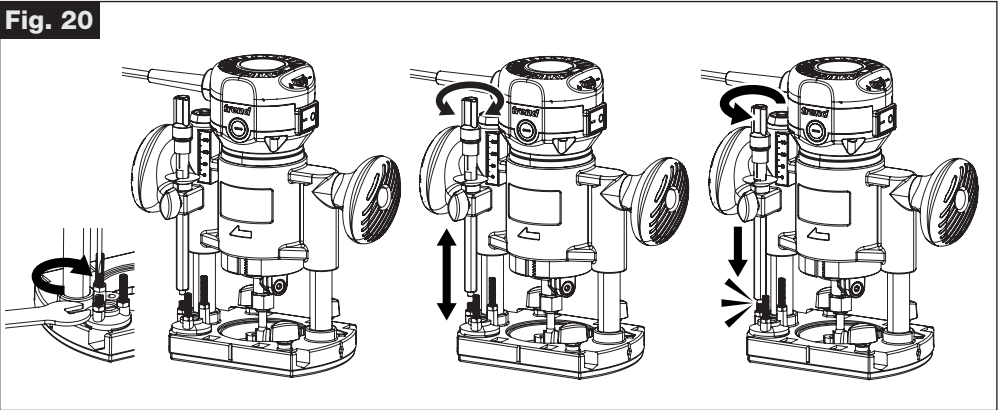

Fig. 21
- **Avoid climb-cutting** (cutting in direction opposite than shown in Fig 21). **Climb-cutting increases the chance for loss of control resulting in possible injury.** When climb-cutting is required (backing around a corner), exercise extreme caution to maintain control of router. Make smaller cuts and remove minimal material with each pass.